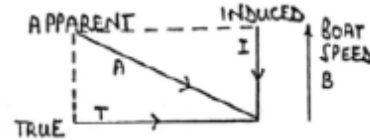

Fig 3
b) Apparent Wind: In looking at sail theory and the setting of the sail controls I considered the wind as if it was coming from one fixed direction, the true wind, which is, in fact, only true whilst the boat and rig is stationary. Once the boat is moving, it creates a wind equal in speed and of opposite direction to its own movement and course. This induced wind (I) then interacts with the true wind (T) to create an apparent wind (A) which will lie between the true and induced winds in proportion to their strength, (fig 3).